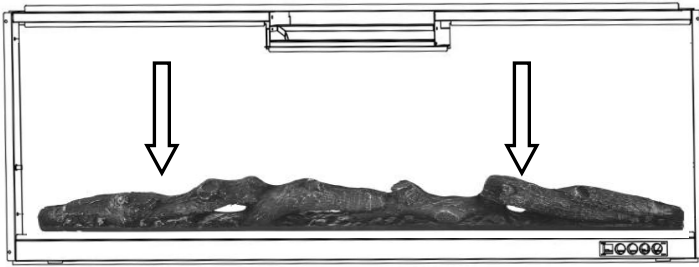

Fig 6-1. (Log-set)
- B. Remove the log-set (J) from the package, put it to the fireplace designed place. **Fig 6-1.**